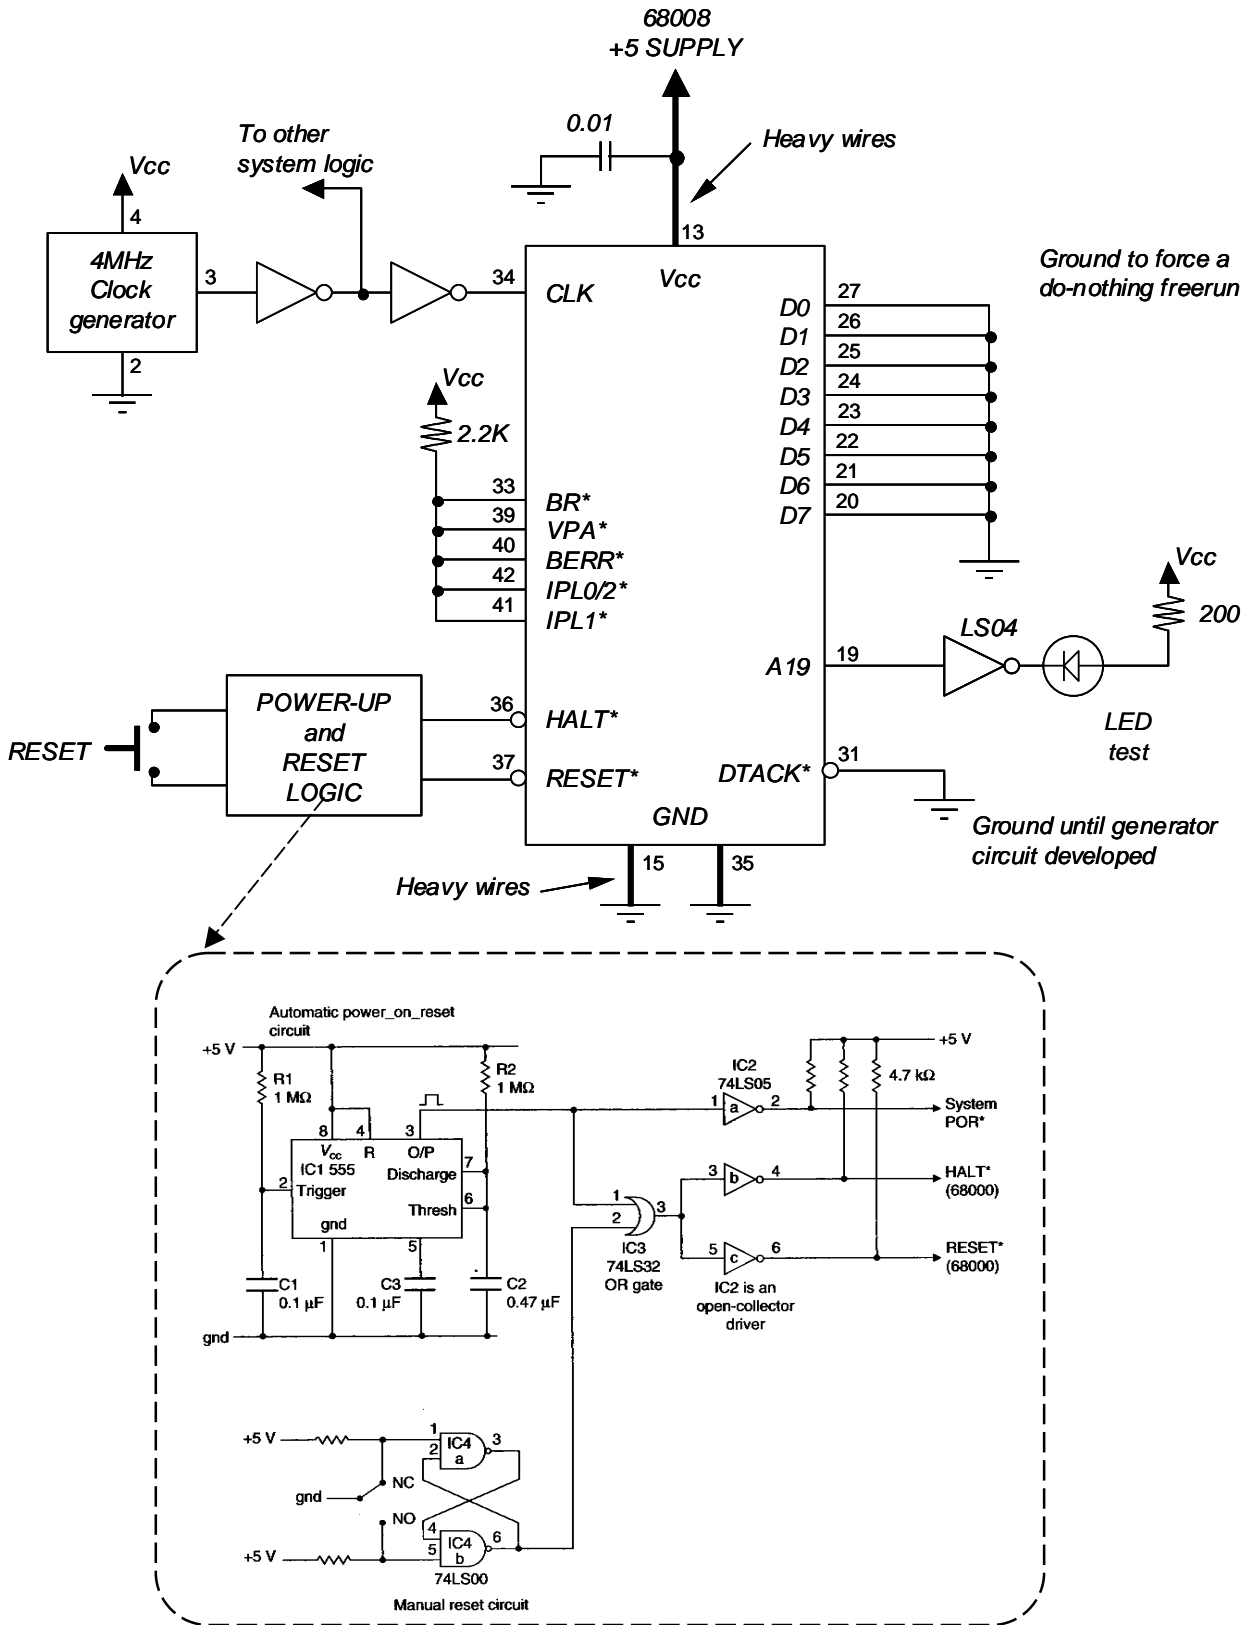

Figure 4. Circuit diagram for the minimum 68000 system (free-run test)
1. **Construct a minimum system** (Figure 4) consisting of a MC68008P8, the necessary reset logic, and an LED on address line A19. Use a 4 MHz clock for the system. Make sure that